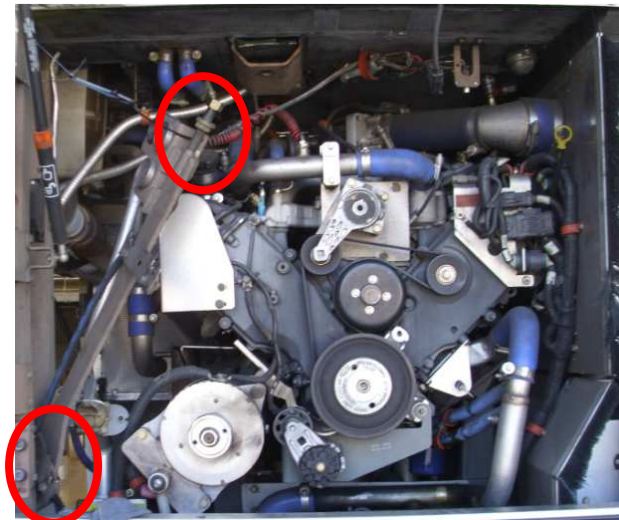

Figure 4: SS Engine Strut Removal
- d. Remove the Street Side (SS) engine strut assembly by unscrewing the top and bottom hardware securing it to the chassis. Secure the assembly out of the way. See Fig 4.